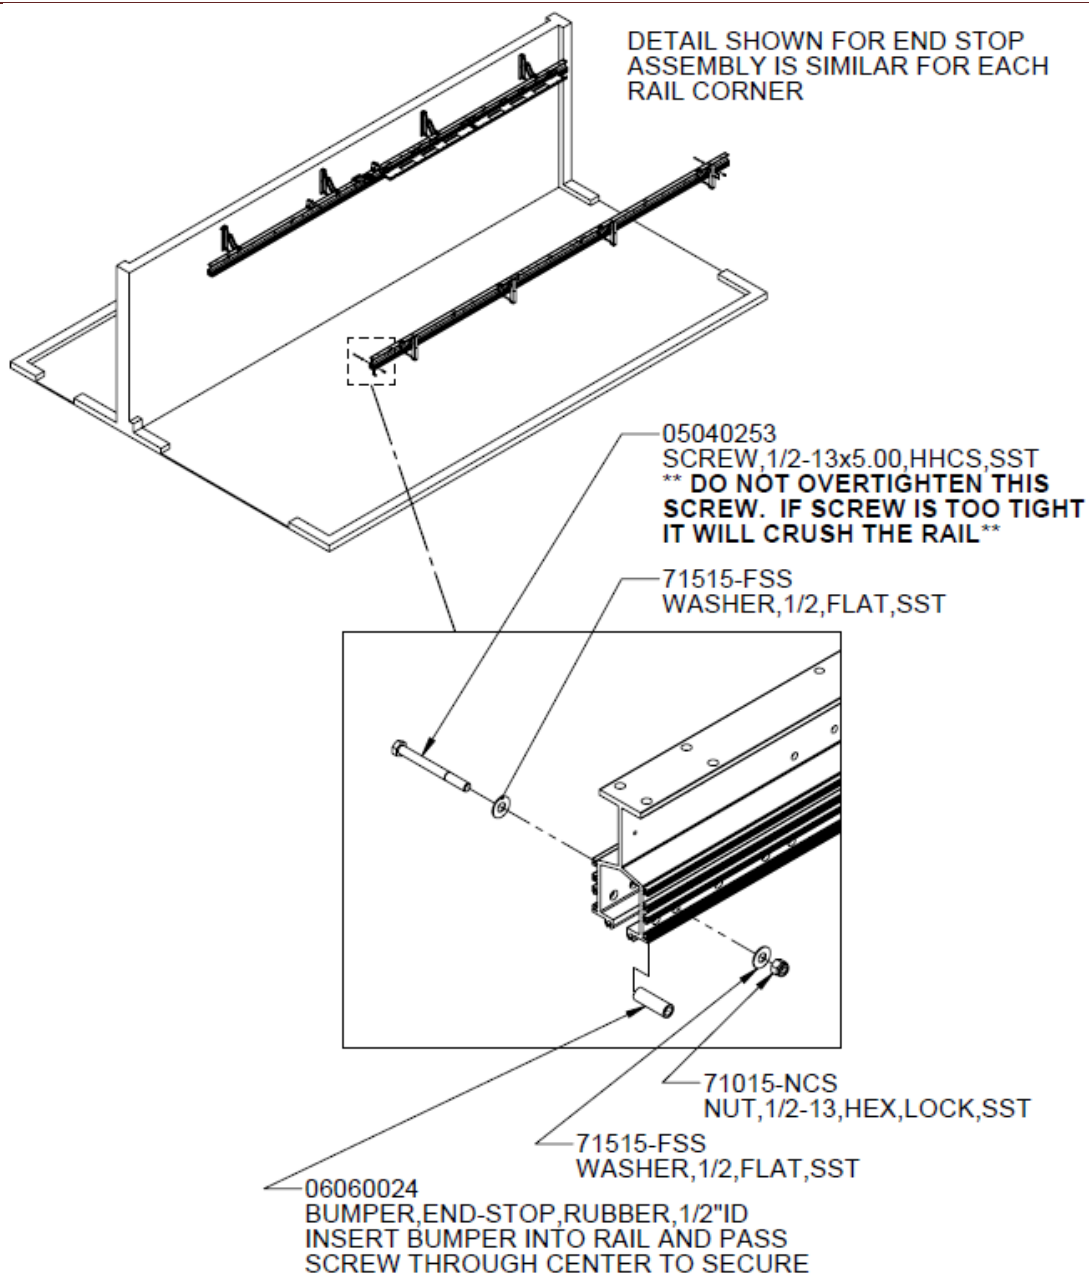

Figure 61 - Install End Stops, Entrance End Shown In Detail
- Install end stops into rails as shown in Figure 61.